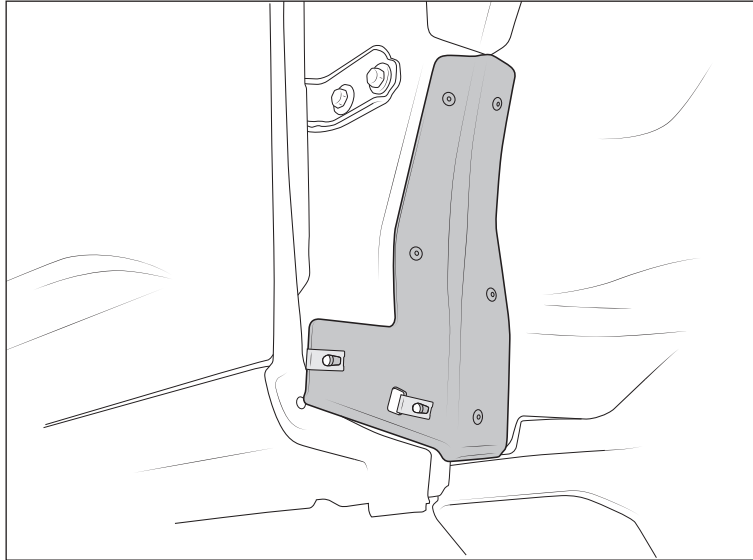

Figure 10
14. Install Closeout panels at the rear of the wheel wells (fig. 10):